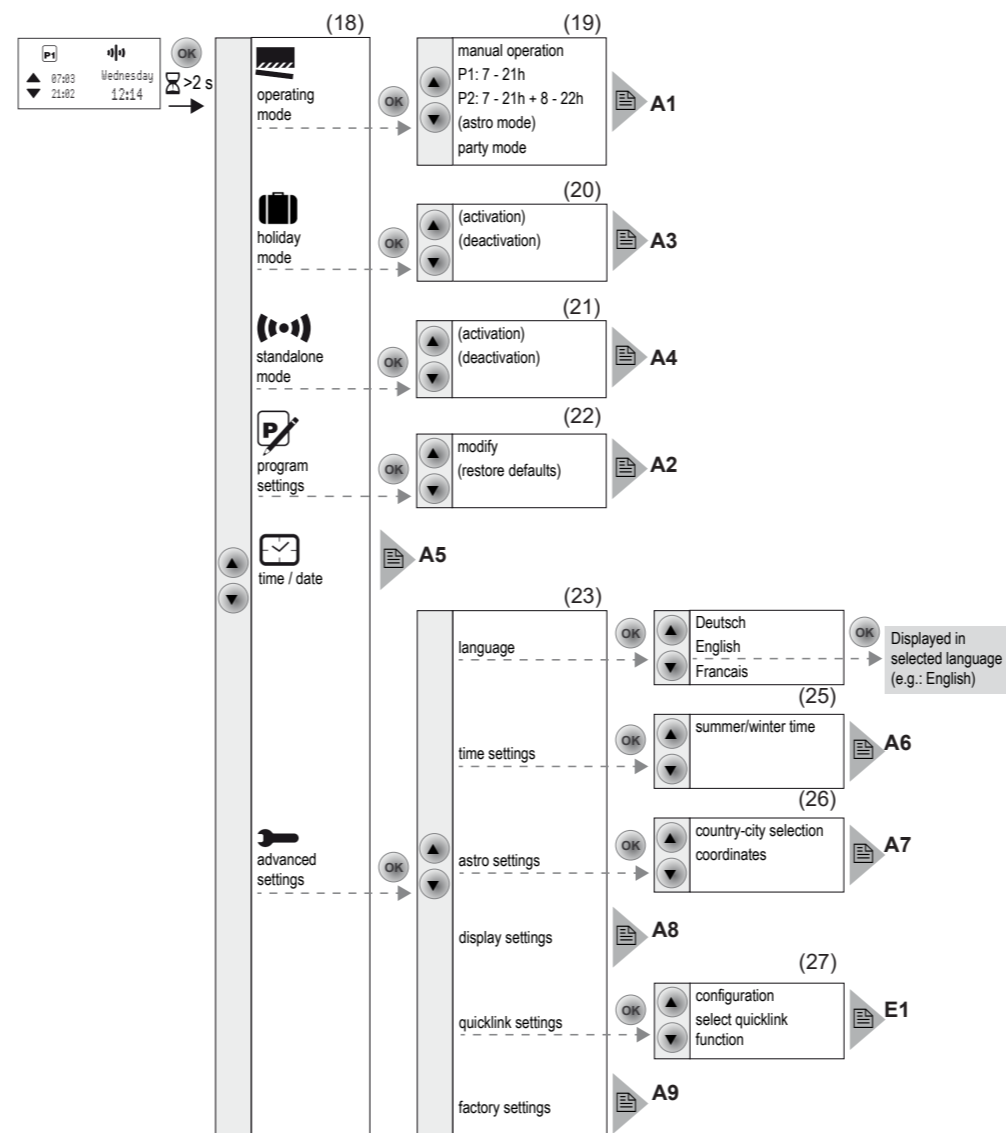

Figure 4: Menu overview
- If no button is pressed for a period of two minutes, the display returns to the basic display. Figure 4 shows an overview of the functions in the menus/submenus: **A..** for the user and **E..** for the electrician refer to sections for additional information. Menu items in brackets are visible depending on the timer programming status.
The shutter timer shows the Programme selection submenu (Fig. 4, 19). The most recently selected programme is highlighted dark.
The options **modify** and **restore defaults** (Figure 4, 22) can be used for the preset factory programmes:
The shutter timer can be found in the submenu **holiday mode** (Fig. 4, 20).
The shutter timer can be found in the submenu **standalone mode** (Fig. 4, 21).
In the main menu (Fig. 4, 18), **time/date** is highlighted dark.
The submenu **time settings** is displayed (Fig. 4, 25).